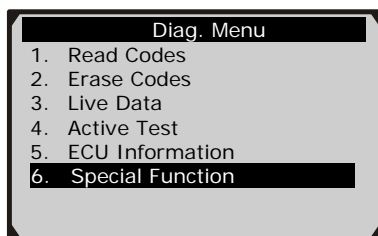

Figure 11.3
- 1) In the **Diagnostic Menu** (Figure 11.3), use the **UP/DOWN** button to select **Special Function** to do the EPB test, which includes **Brake cable replacement** and **Electric parking brake replacement**.
1. Follow the instructions above to display the **Diag. menu** screen.(Figure 11.3)